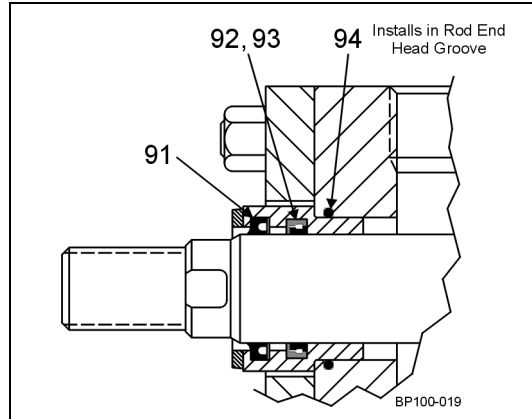

Figure 9 - Head End O-ring Seal
8. Install wiperseal (Figure 9, item 91) in groove closest to end of gland.
9. Slightly collapse backup washer (Figure 9, item 93) and install lipseal (Figure 9, item 92) in seal groove. Ensure wiperseal is flat against wall of groove. Lips of seal should point toward long bearing side of gland.
NOTE: Supplied with each rod gland and seal kit, o-ring (Figure 9, item 94) serves as a seal between gland and head. O-ring is a static seal and does not normally require replacement. Original o-ring may be left in place, unless known to be leaking (fluid flow around gland thread).
3. Thread gland into retainer until seated firmly against head. Gland-to-head o-ring (Figure 9, item 94) serves as a torque prevailing lock.